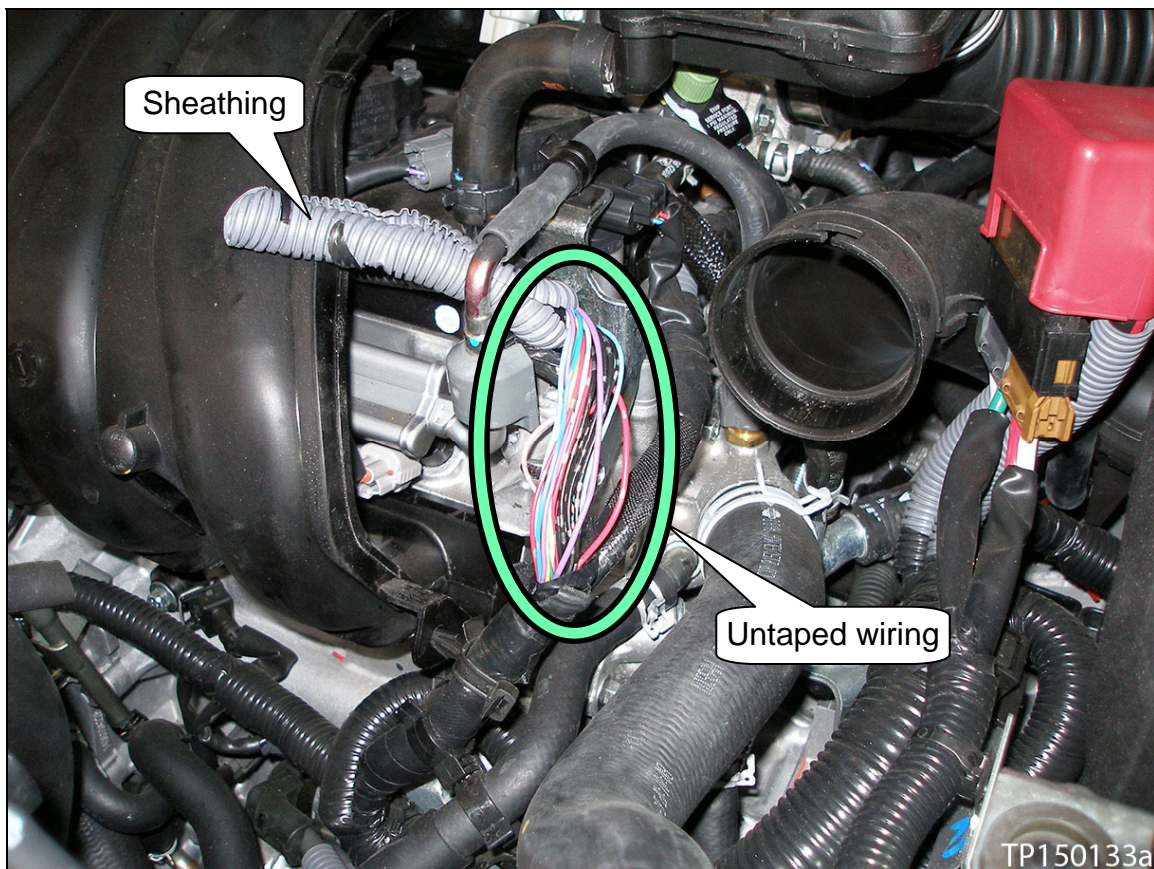

Figure 3
7. Untape the sheathing, and then pull back the sheathing out of the way (see Figure 3).
8. After pulling back the sheathing, untape the wiring (see Figure 3).